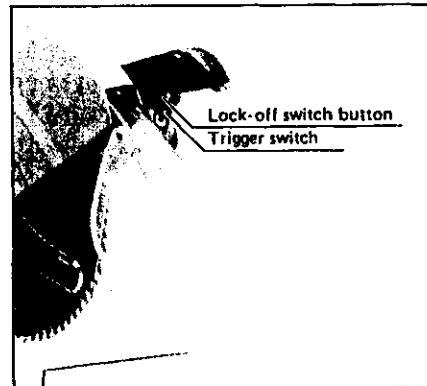

Fig. 3
* Is the saw blade tip contacting the turn base when the blade is fully lowered?	Fig. 3